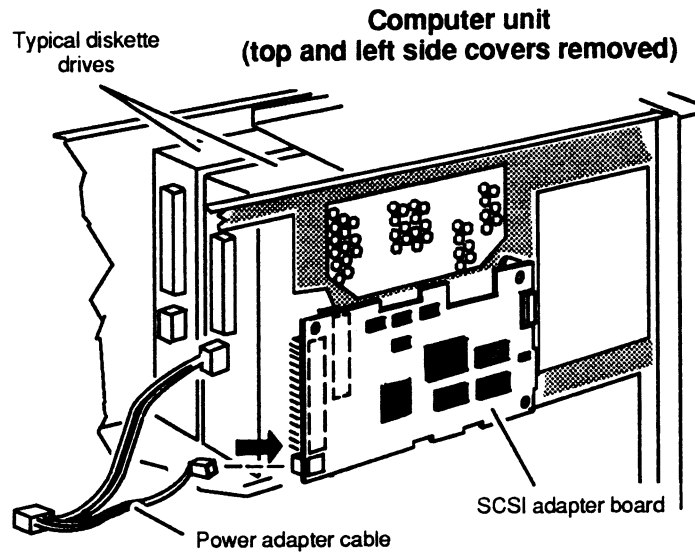

Figure 2-18 Plugging the Power Adapter Cable into the SCSI Adapter Board
2. Plug the power adapter cable into the SCSI adapter board as shown in Figure 2-18.